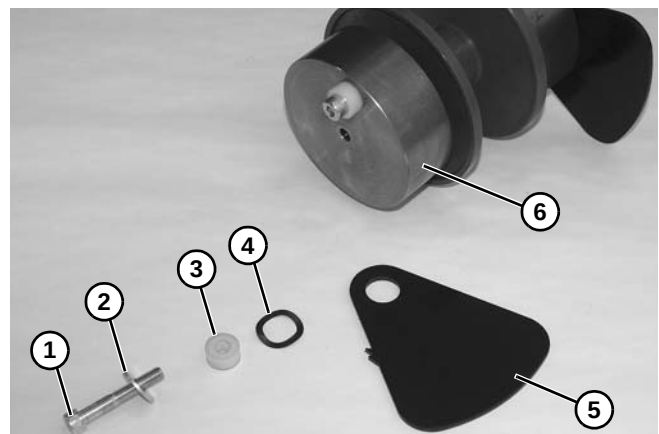

Figure 98
7. Remove bolt (**Figure 98, item 1**), washer (**Figure 98, item 2**), spacer (**Figure 98, item 3**), wave washer (**Figure 98, item 4**), and plate (**Figure 98, item 5**) from end of idler assembly (**Figure 98, item 6**).